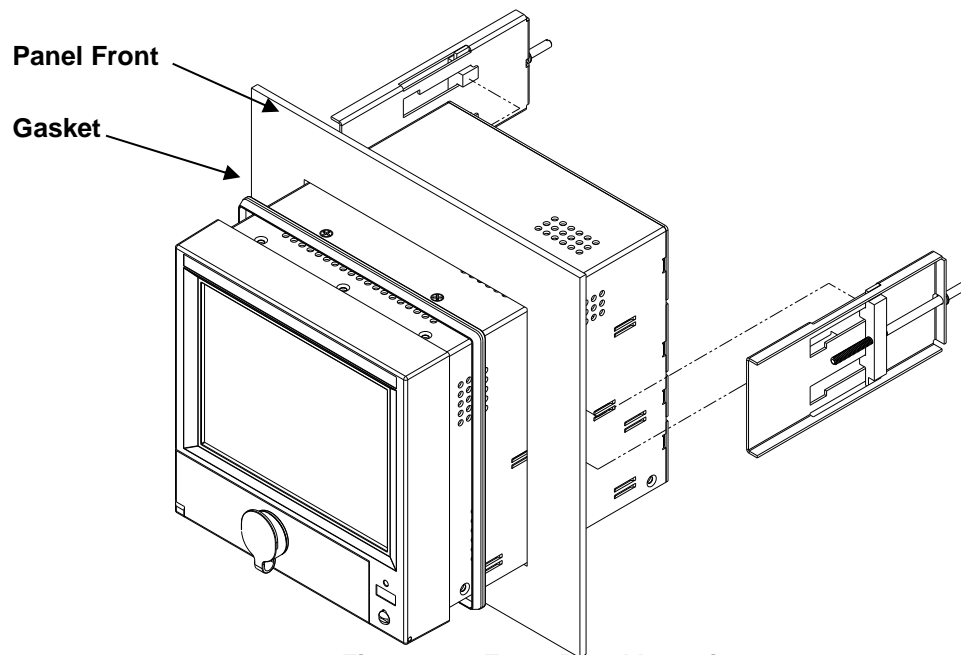

Figure 3-3 Front Panel Insertion
- 3.3.1.4** Insert the recorder **rear end first**, into the panel opening from the front of the panel as shown in Figure 3-3. Ensure that the gasket is between the front bezel of the recorder and the front panel.